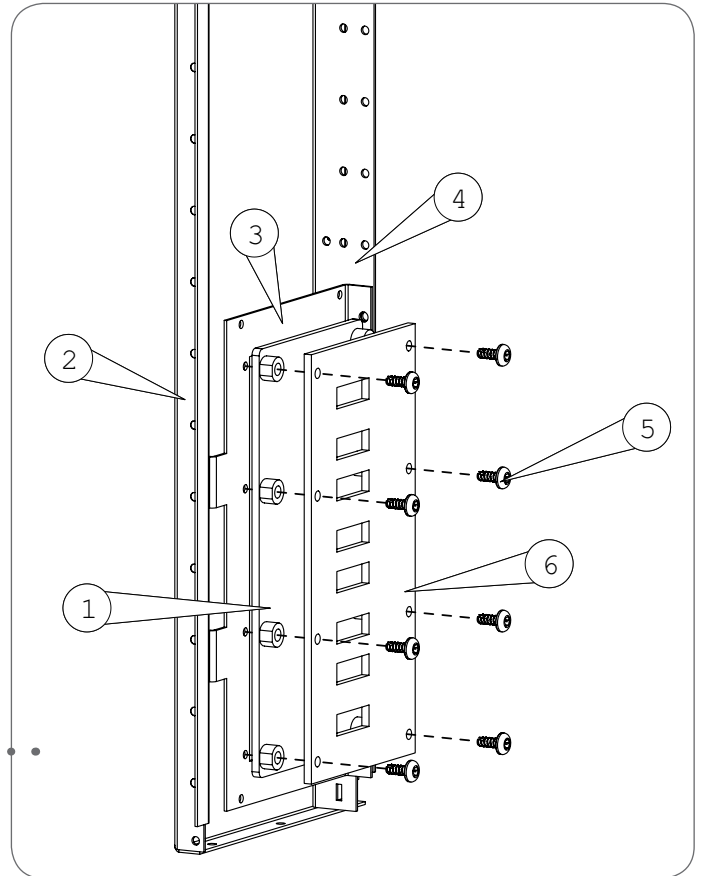

Fig 8.4.1 Installing busbar holder.
The busbar insulators are fastened to the busbar insulator holders (3) with screws. For the ends of possible power busbars in an enclosure, busbar insulators (6) and busbar end insulators (1) are installed to insulate the busbars from the metal frame structures as shown in Fig. 8.4.1. The busbar insulators are fastened with either 4.8x9.5mm plate screws or M5x10 assembly screws and the busbar end insulators with, for instance, 5,5x25mm screws.